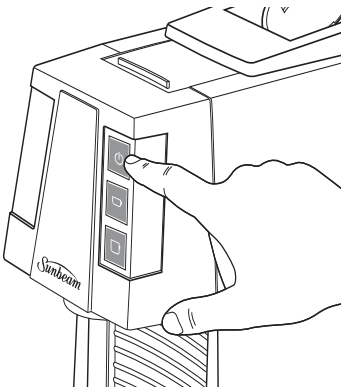

Figure 2
3. Press power button on the machine. See figure 2.